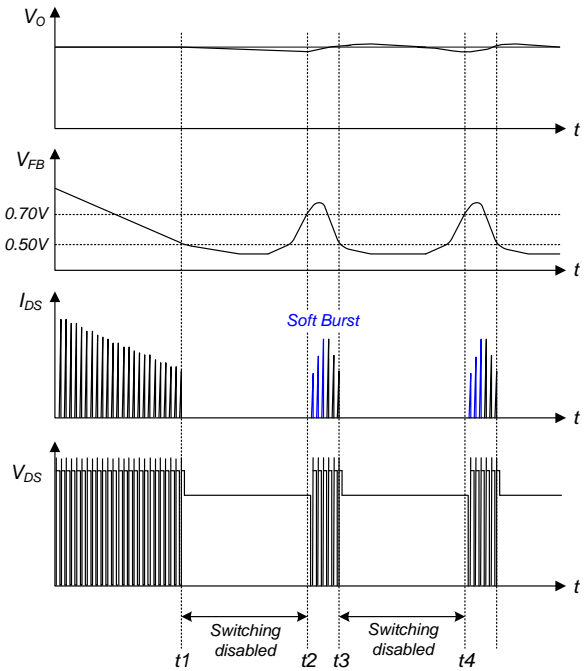

**Figure 22. Output-Short Protection**
**4.3. Output-Short Protection (OSP):** If the output is shorted, steep current with extremely high di/dt can flow through the SenseFET during the minimum turn-on time. Such a steep current brings high-voltage stress on the drain of the SenseFET when turned off. To protect the device from this abnormal condition, OSP is included. It is comprised of detecting  $V_{FB}$  and SenseFET turn-on time. When the  $V_{FB}$  is higher than 2V and the SenseFET turn-on time is lower than  $1.2\mu s$ , the FSGM0465R recognizes this condition as an abnormal error and shuts down PWM switching until  $V_{CC}$  reaches  $V_{START}$  again. An abnormal condition output short is shown in Figure 22.